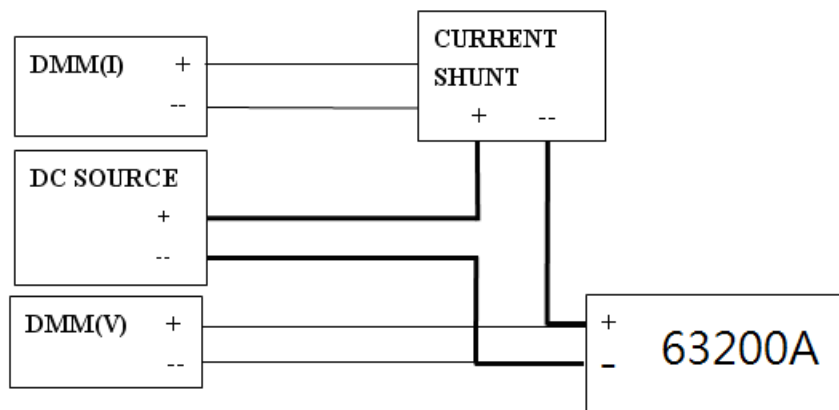

Figure 6-1
Connect the Load, DC Source, DMM, and Current Shunt as shown in Figure 6-1. Use DMM (I) to measure the voltage that passes through the shunt resistor measurement port, and get the Load current.
- Connect the Load, DC Source, DMM, and Current Shunt as shown in Figure 6-1. Use DMM (I) to measure the voltage that passes through the shunt resistor measurement port, and get the load current.
- Turn on the DC source and set the output voltage to 5V. Set the current limit of the DC source larger than the set current in Table 6-2. Press **LOAD** to enable the load and wait for 30 seconds. Then record the shunt current and the front panel displayed readings. The current of the load can be recorded from the current shunt = DMM (I) voltage/current shunt resistor.